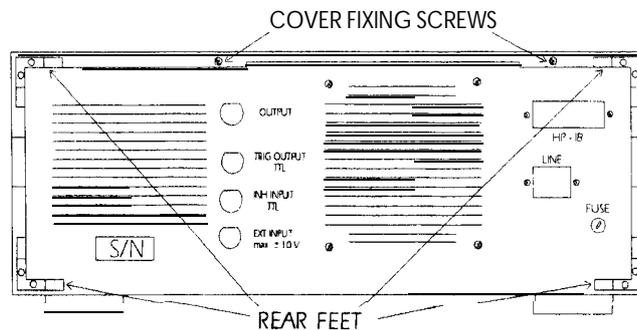

Figure 4-3. Rear Panel View Showing Cover Fixing Screws
1. Remove the four rear feet. Each foot is secured by one screw. See Figure 4-3 for the position of the feet.
3. Remove the two screws securing the cover to the chassis, Figure 4-3 shows their position.